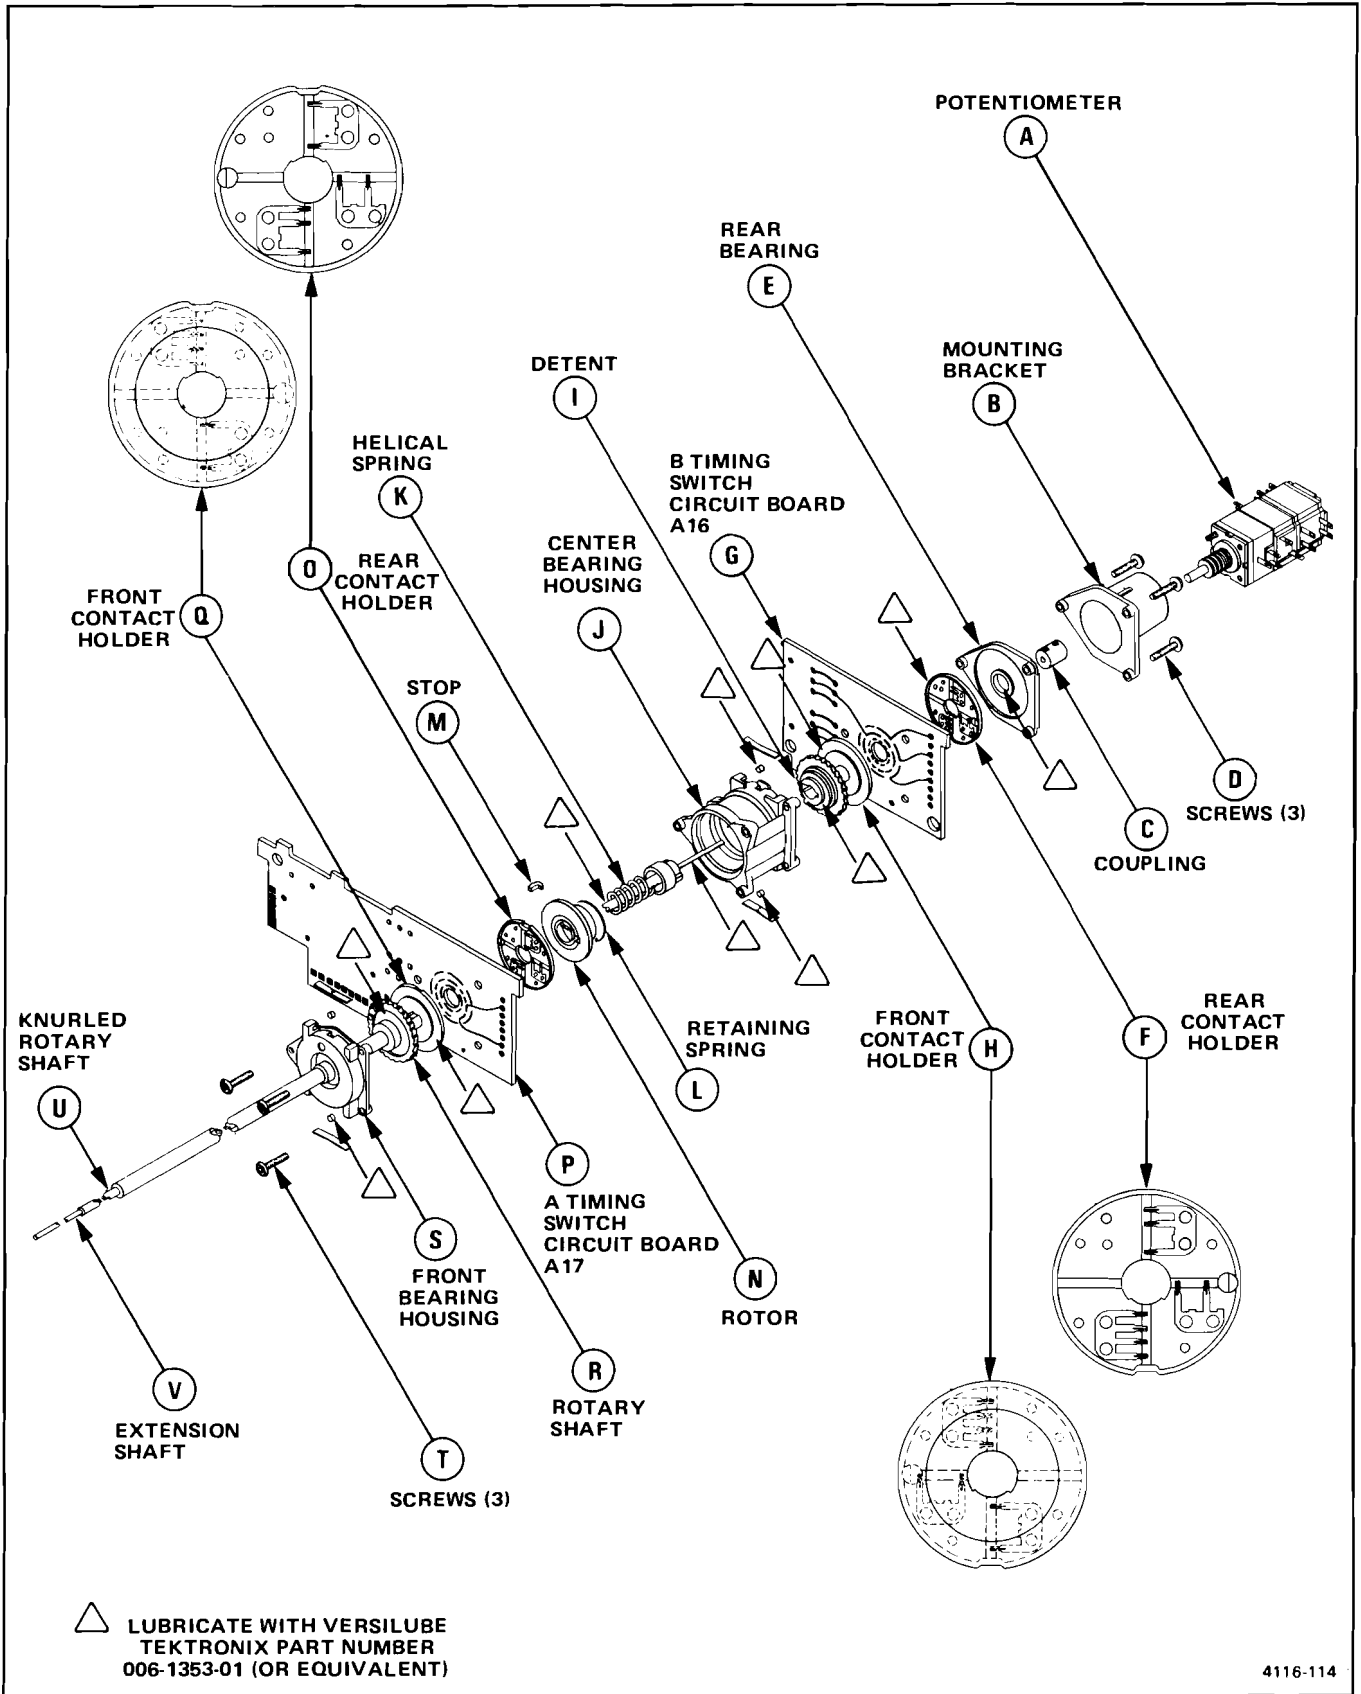

Figure 6-4. SEC/DIV switch exploded view.
The following procedure not only describes removal and replacement of the Timing Switch assembly as a complete unit, but also explains how to disassemble and reassemble the unit to facilitate repair and cleaning. Both Figure 6-4 and the exploded view drawings in the "Replaceable Mechanical Parts" list (Section 10) are useful in performing switch disassembly and reassembly.
*In steps 10 through 48, the capital letters enclosed within parentheses refer to the like-lettered components in Figure 6-4.*
*Steps 10 through 14 are necessary only if the potentiometer (A) requires replacement.*
10. Remove the mounting screw from the potentiometer (A).
11. Rotate the extension shaft (V) counterclockwise until the set screws in the coupling (C) line up with the slot in the clear plastic mounting bracket.
12. Use a 0.050-inch Allen wrench to loosen the rear-most set screw in the coupling (C).
13. Unscrew the potentiometer from its mounting bracket (B).
*The knurled rotary shaft (U) is spring loaded and must be held in place while performing steps 15 through 21 to prevent possible damage to the electrical contacts. Two of the ways that this can be accomplished are: (1) placing the shaft in a vise, or (2) temporarily reinstalling the VAR knob and gripping it to hold the shaft in place.*
15. Remove three Phillips-head screws (D) retaining the mounting bracket (B).
16. Pull the coupling (C), with extension shaft (V) attached, out through the rear of the assembly.
*During reassembly, if any cleaning has been done or if the switch assembly was previously difficult to rotate, lubricate the points indicated by a triangle symbol on Figure 6-4 with a very small amount of Versilube (or equivalent) silicone grease. All places indicated may not require lubrication. A general guide is to lubricate only the mechanical parts that rub together. See "Switch Contacts" in the "Preventive Maintenance" part of this section.*
To reassemble the Timing Switch assembly (refer to Figure 6-4):